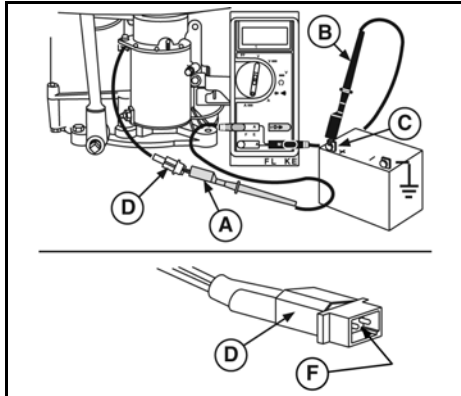

Figure 21
4. Attach RED test lead clip (A, Figure 21) to DC output pin (F) in connector (D).
5. Attach BLACK test lead clip (B) to the positive (+) battery terminal.